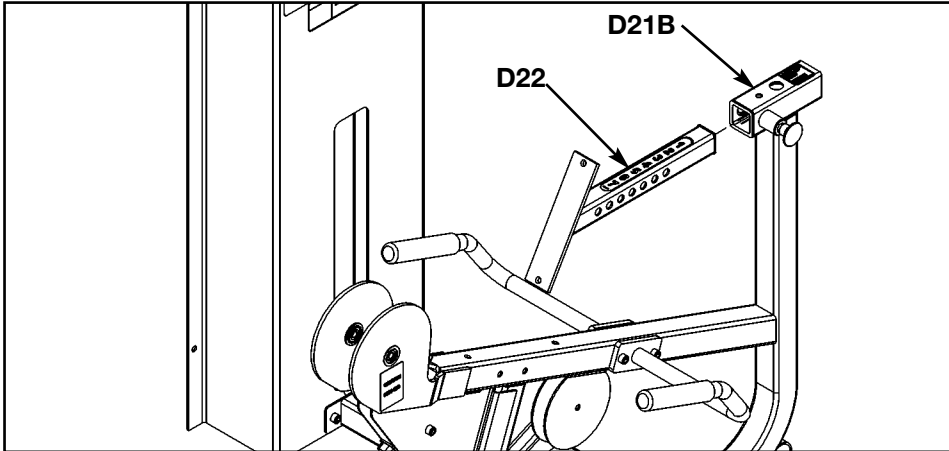

Figure 9
**6. Install cushion post to seat frame** (see steps 6A, 6B and Figure 9).
- B. Pull detent pin and slide cushion post (#D22) into seat frame (#D21B) as shown in Figure 9.